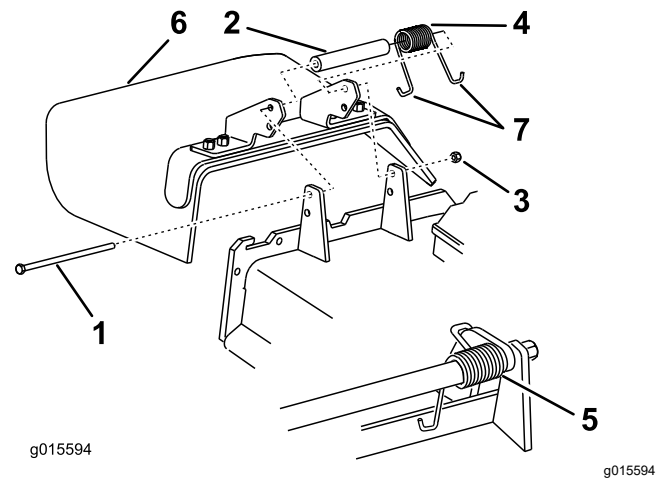

Figure 7
1. Remove the side discharge chute from the mower deck (Figure 7).